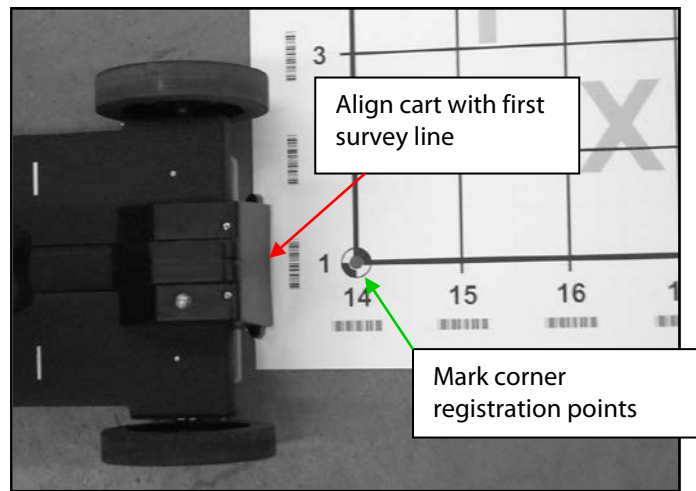

Figure 68: Pad scanning.
- 7 With the minicart aligned at the beginning of your first profile (Figure 68), press the Mark button on the minicart. (thumb button). The SIR 20 will beep once and you will see the wording SCAN LINE ID in the Prompt Area.